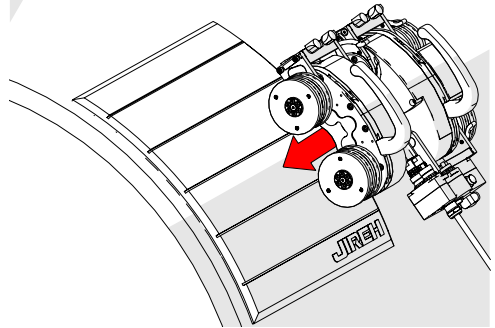

Fig. 46 - Lower crawler to mat
4. Place and hold the crawler on the installation/removal mat (Fig. 46).